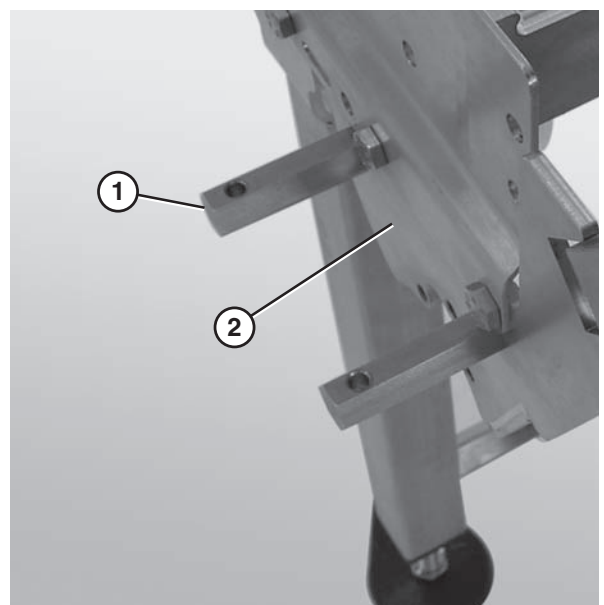

Figure 64
5. Remove the gear reducer mounting posts (Figure 64, item 1) from the nose bar side plate (Figure 64, item 2).